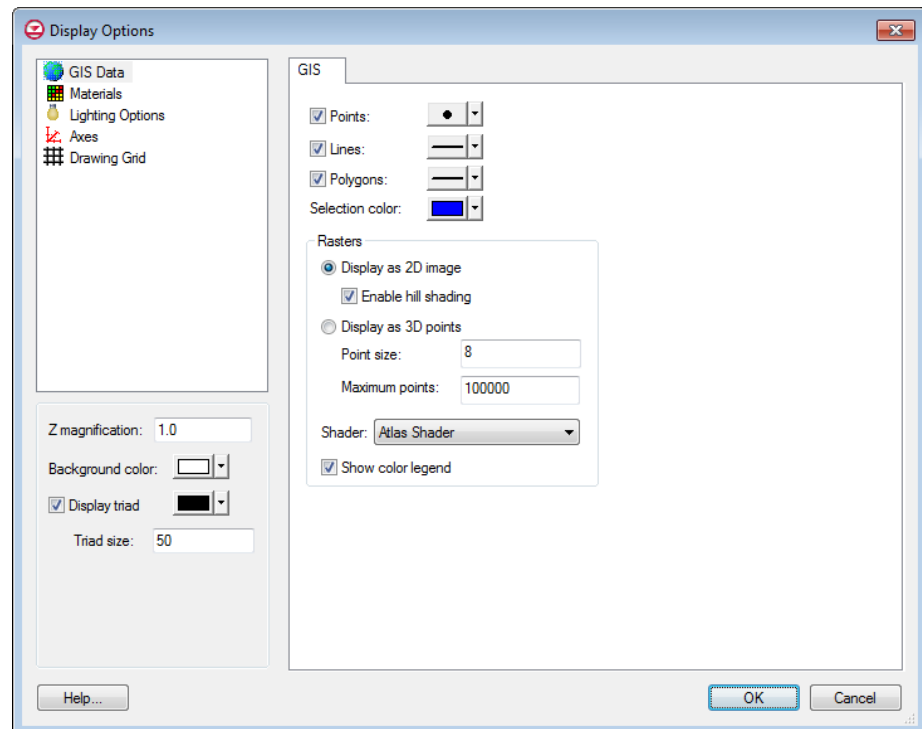

Figure 16 *Display Options dialog*
- Click **Display Options**  to open the *Display Options* dialog (Figure 16).